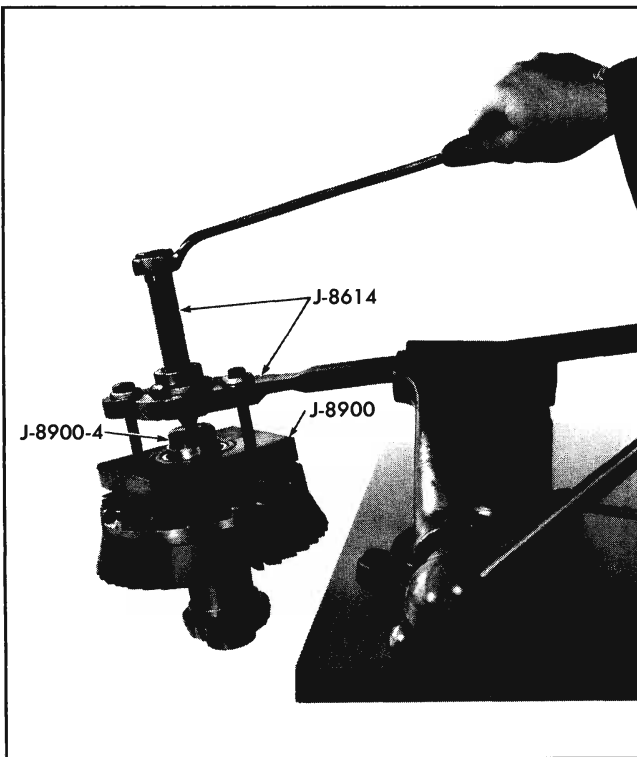

Fig. 4-29 Removing Side Bearing
1. If side bearing or case is to be replaced, remove bearings using J-8900 and J-8614 (Fig. 4-29).